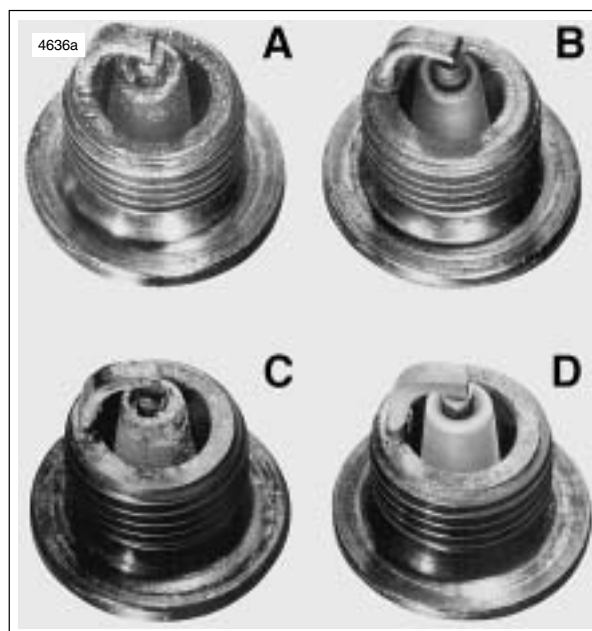

Figure 1-40. Typical Spark Plug Deposits
8. See Figure 1-40. Compare your observations of the plug deposits with the descriptions provided below.